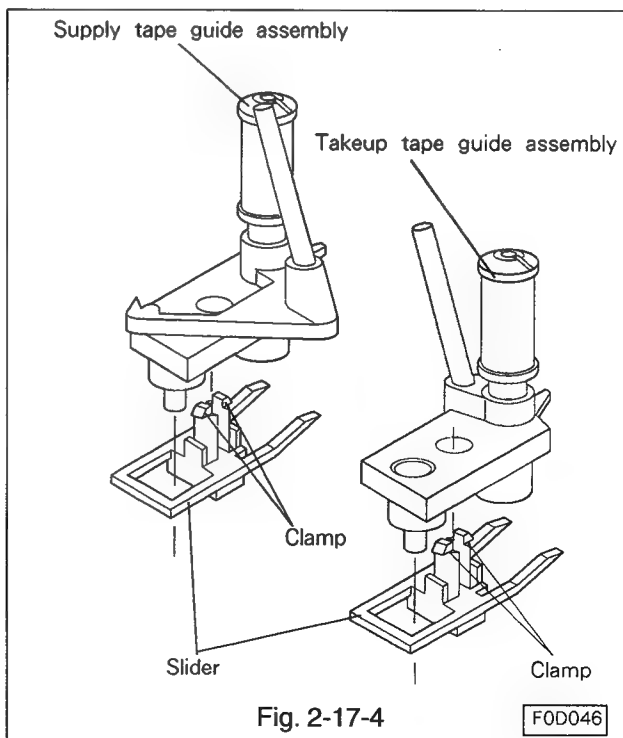

Fig. 2-17-4
- I. Unfasten the clamp of the slider which secures the supply or takeup tape guide assembly, and remove the tape guide assembly and the slider from the main plate.(Refer to Fig. 2-17-4.)